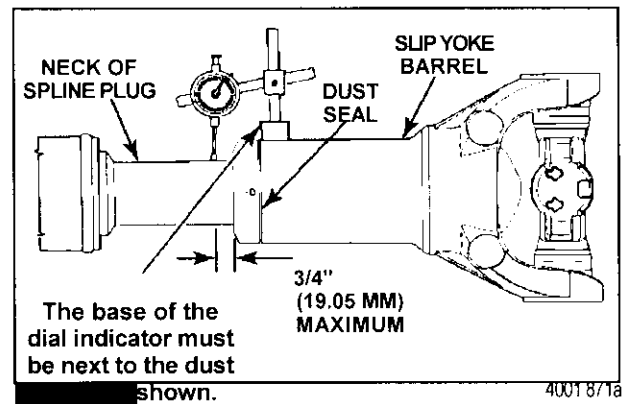

Figure 4.13
2. Firmly mount a dial indicator with a magnetic base onto the slip yoke barrel next to the dust seal. Figure 4.13. You don't want the dial indicator to move when you check the slip yoke for looseness, or the measurement will not be correct.
3. Extend the dial indicator arm from the base, so that it contacts the neck of the spline plug within 3/4-inch (19.05 mm) from the dust seal. Figure 4.13.